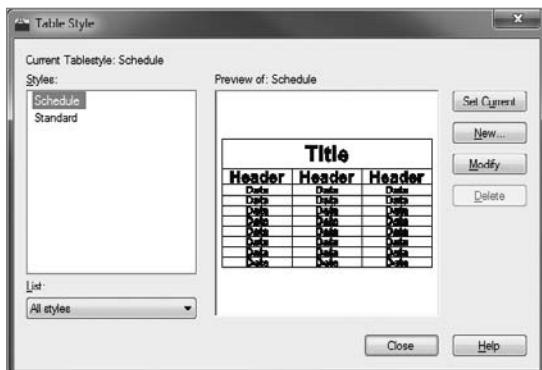

FIGURE 9.63 The Table Style dialog box with Door Schedule as the current table style
14. Back in the Table Style dialog box, in the Styles list, click Schedule to highlight it, and then click the Set Current button to make it the current table style (see Figure 9.63). Click Close.